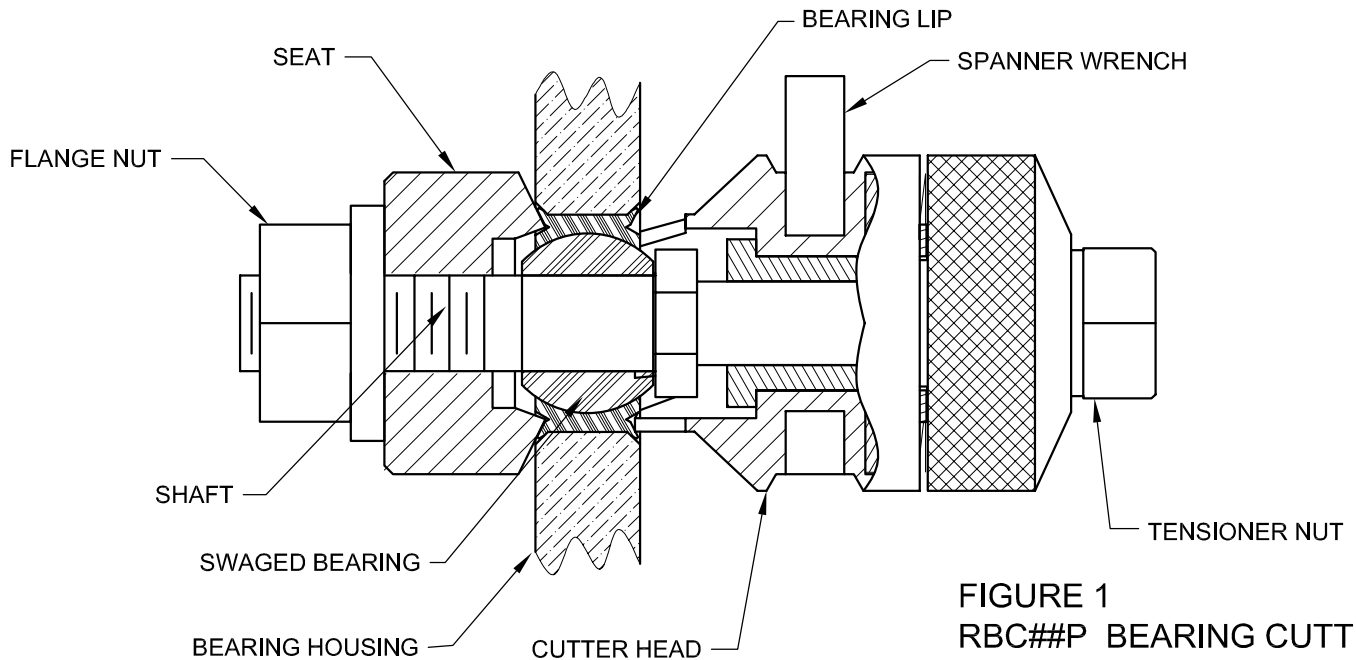

FIGURE 1
2. Refer to figure 1; remove the Flange Nut and Seat from the tool. Place the Portable Bearing Cutter Shaft through the Bearing, carefully align the cutting teeth within the swaged bearing's lip and hold in place.